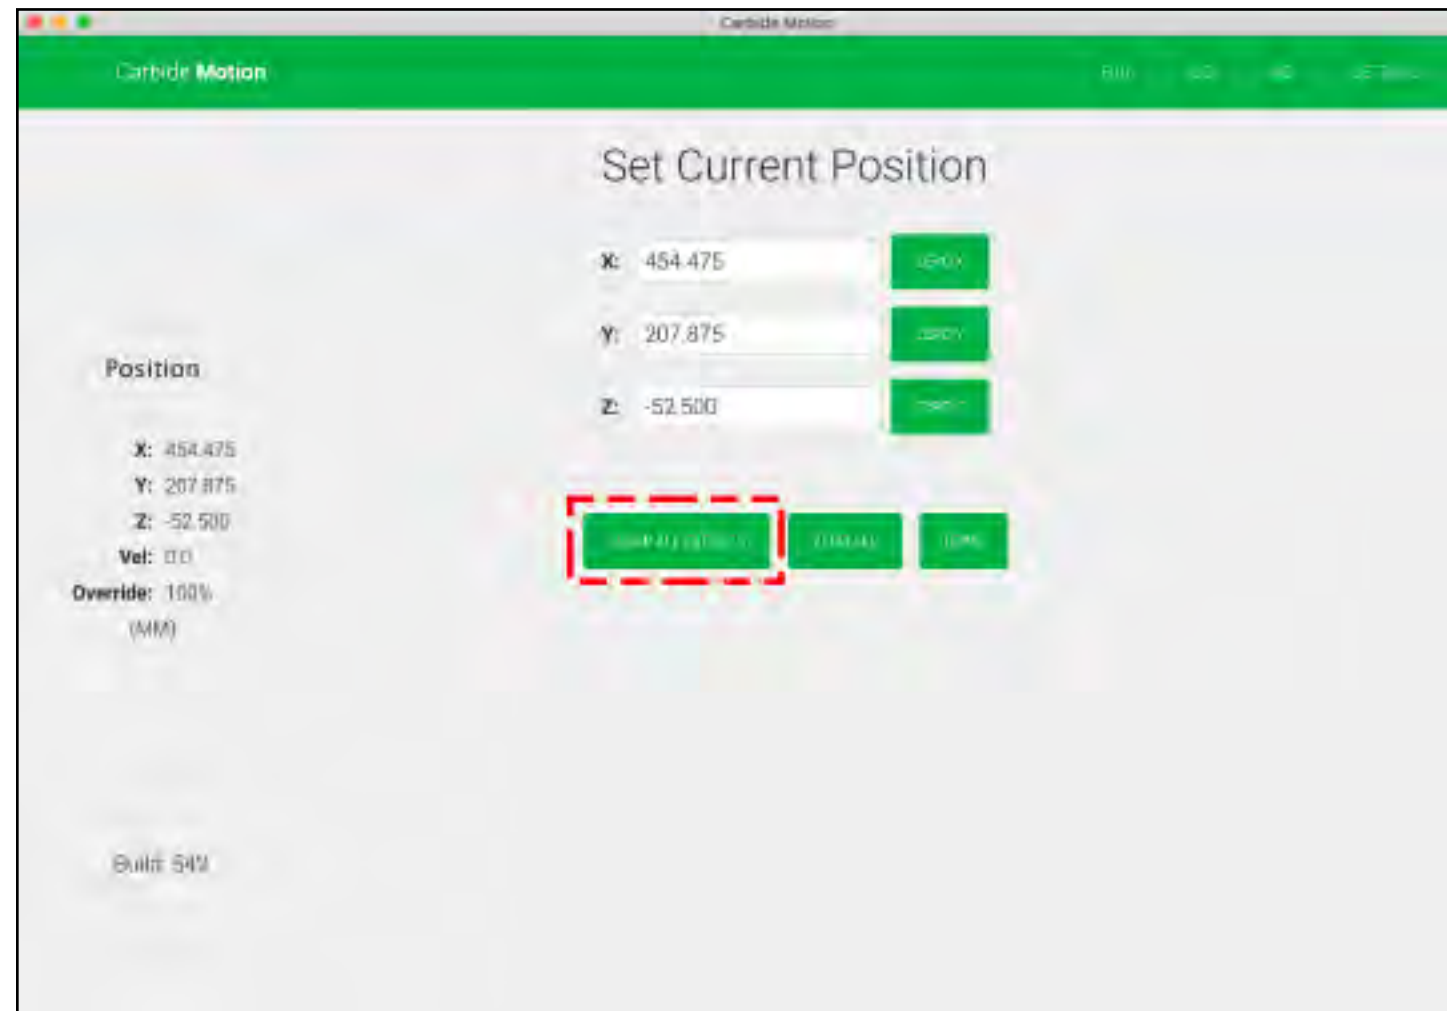

Figure 10-10
3. Click the **Clear All Offsets** button and then click **Done**. See **Fig. 10-10**.